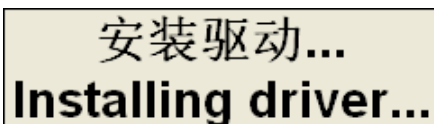

Fig. 7-5 Driver installation
- 5) After setup completed, the system installs the drivers automatically. See Fig. 7-5.